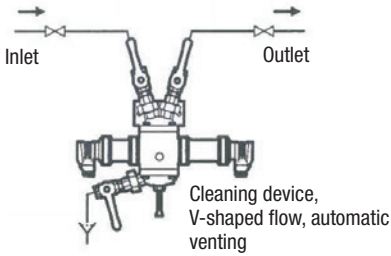

Fig. 5
Install the measuring sensor and route the lines as shown in installation examples **Fig. 5 to 9**.
- Fig. 5** Installation example of sensor installed in a sample line, e.g. water treatment, beer filtering, permeate downstream of reverse osmosis.
- Fig. 6** Installation example of sensor when the condensate contains suspended solids. If the sensor is installed as shown in **Figs. 5 – 9**, solids could be deposited on the cleaning device and would rapidly scratch the glass cylinder **2** when the push rod is actuated.